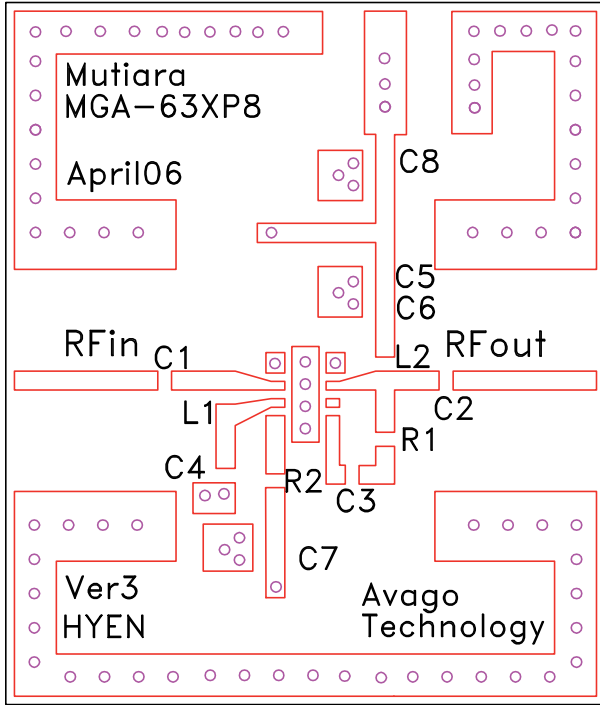

Figure 29. Demo Board Layout Diagram
- List 1 – Demo board component values for Demo board Schematic of Fig. 29.
- List 2 – Demo Board Component values for Demo board Schematic of Fig. 29.